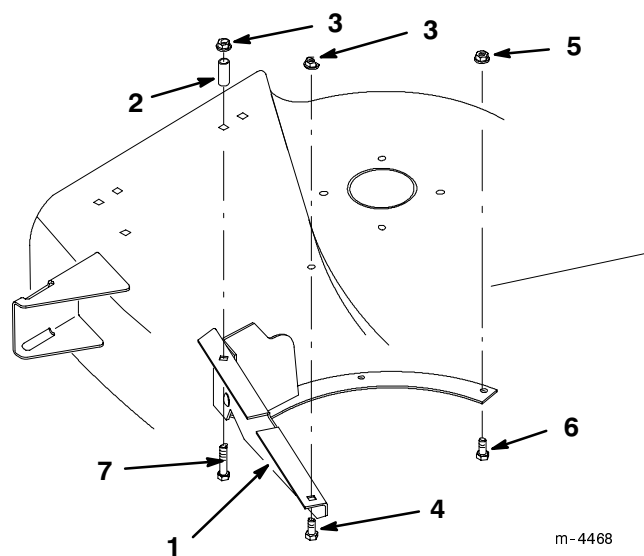

Figure 33
2. Remove rear grass baffle and grass ring from inside discharge chute area (Fig. 33).